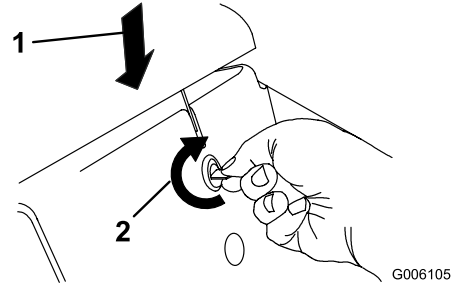

Figure 22
- If your traction unit has a slotted hood latch, push down on the hood while using the provided hood key, a coin, or screwdriver to turn the hood latch clockwise (Figure 22).